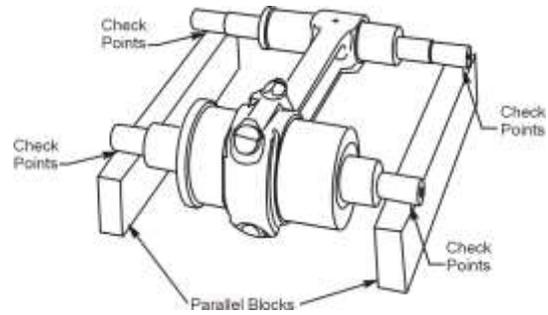

Figure 40
- L. Put the parallel blocks (Figure 40) of the Connecting Rod Parallelism and Squareness Gage on the surface plate.
- N. For the squareness check, use a feeler gage to measure the clearance at the four check points where the arbors rest on the parallel blocks (Figure 40). Record the measurement in the Connecting Rod Inspection Checklist for LIO-360-B1G6 Engines earlier in this chapter